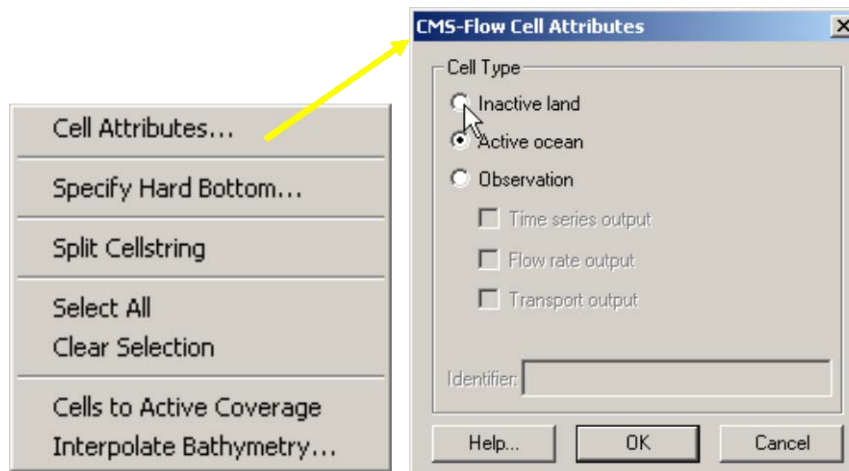

Figure 7. CMS-Flow Cell Attributes Dialog
2. Rt-click on the cells, select *Cell Attributes* (Figure 7), and change the cell type from *Active Ocean* to *Inactive Land* cells, OK,